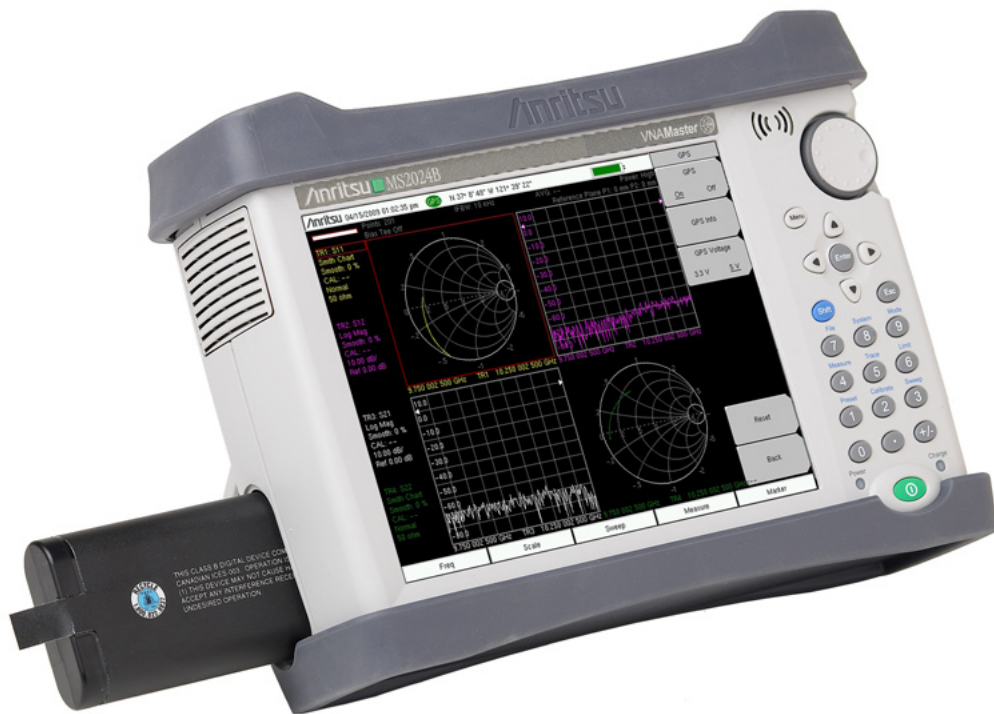

Figure 5-2. Battery Insertion and Removal
4. With the battery access door completely removed, grasp the flexible handle of the battery and pull the battery straight out of the instrument (refer to Figure 5-2 on page 5-3).